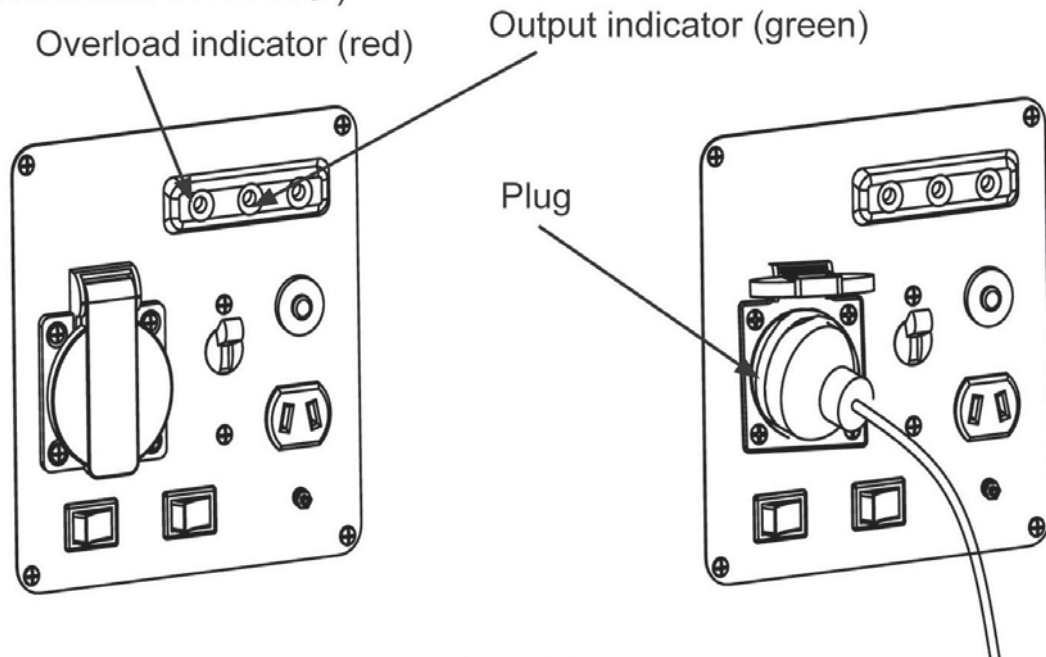
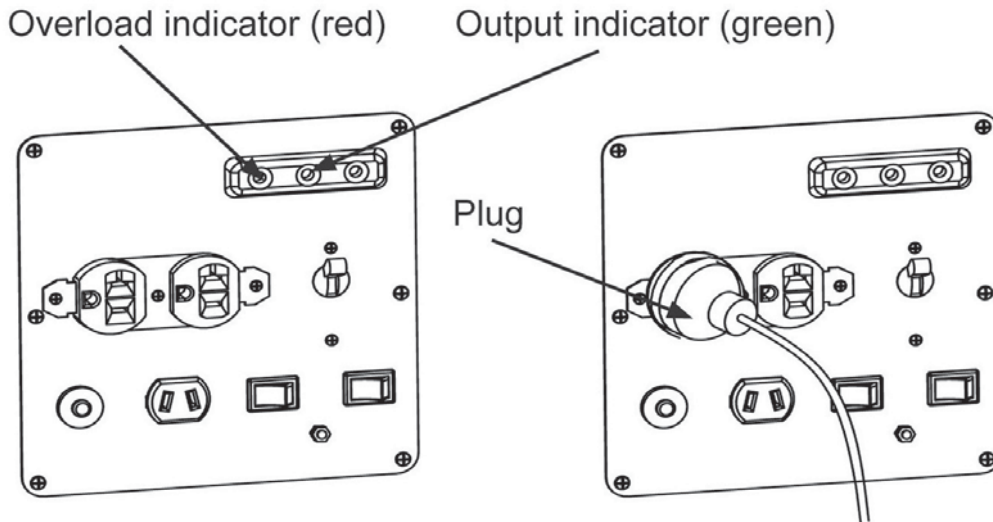

Fig. 4.10
Fig. 4.11
2. Start the generator and make sure the output indicator lights (green) come on. (Refer to Fig. 4.10 for HY1000Si and Fig. 4.11 for HY2000Si HY3000Si)
3. Plug the power cord of the device into the AC socket, turn on the AC circuit protector, and turn on the device. (Refer to Fig. 4.10 for HY1000Si and Fig. 4.11 for HY2000Si HY3000Si)